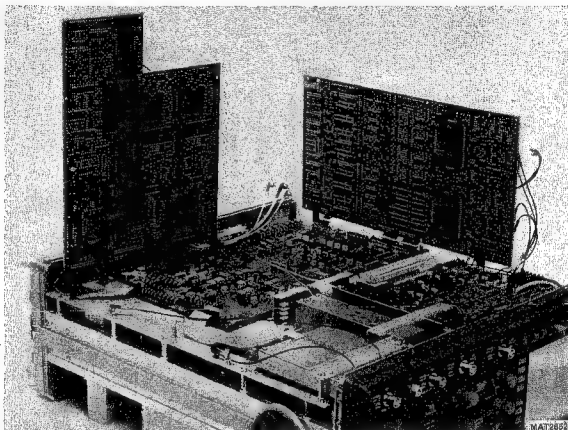

Figure 10.3 Access to the management unit and the CCD logic unit.
To get access to the management unit A25 and the CCD logic unit A26 the P²CCD unit A33 and the vertical signal unit A32 can be turned up as shown in figure 10.3.
- Turn the unit up and place it on the two supports as shown in figure 10.3.